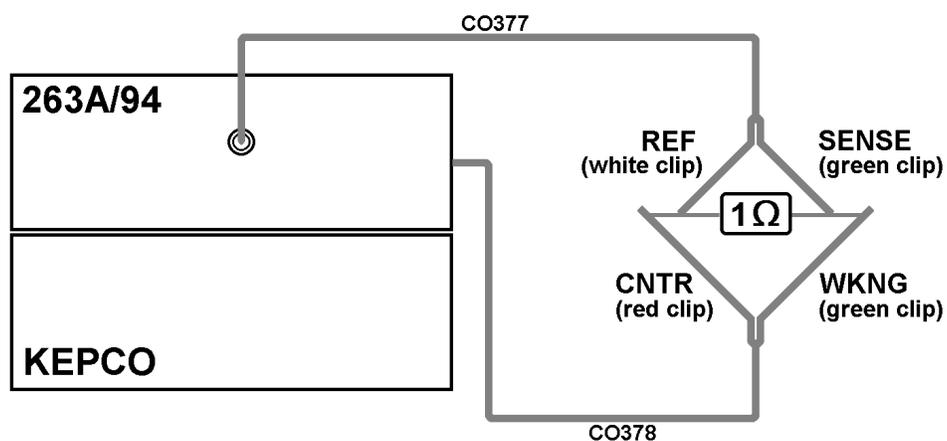

Fig. 4 Dummy Cell Connections.
1. Connect a 1- Ω dummy cell resistor as shown in Fig. 4.